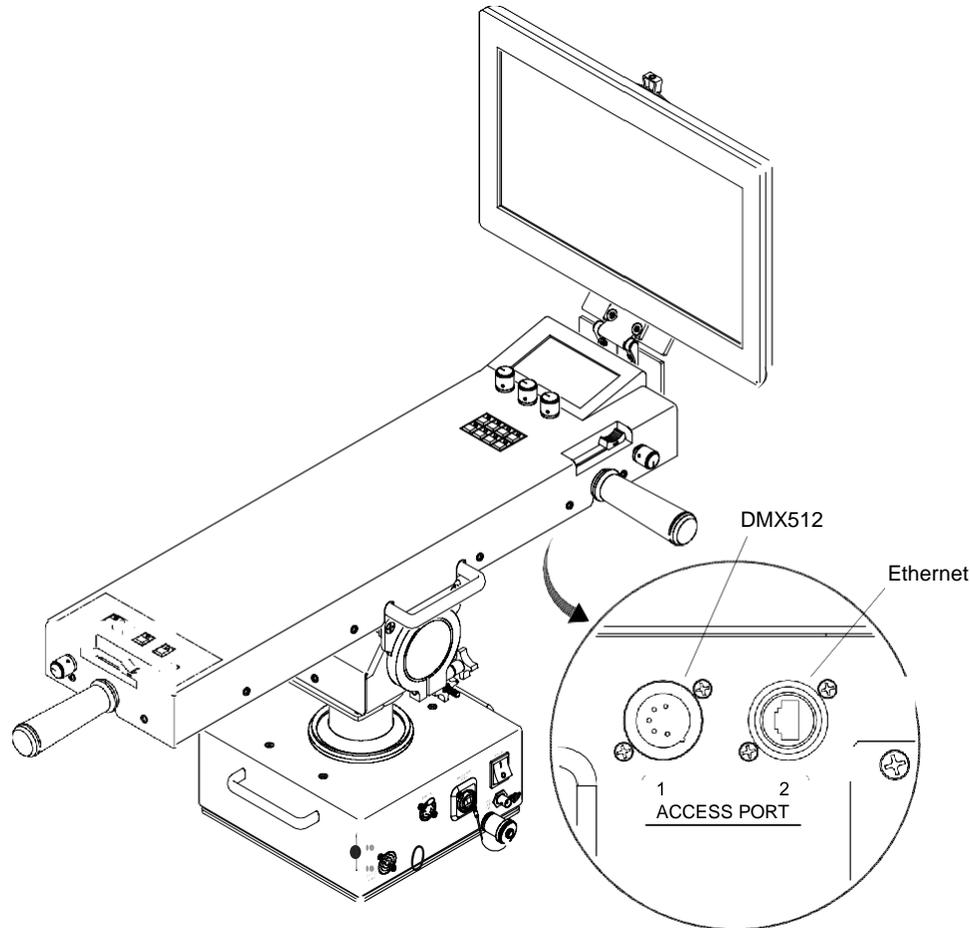

Figure 1-1: Access Ports
- Step 2. Connect Ethernet cable between computer and Control Arm (Controller) Access Port 2 (Figure 1-1).
- Step 2. Connect an XLR cable between a Supernode or S400 device and the Control Arm Access Port 1 (Figure 1-1)